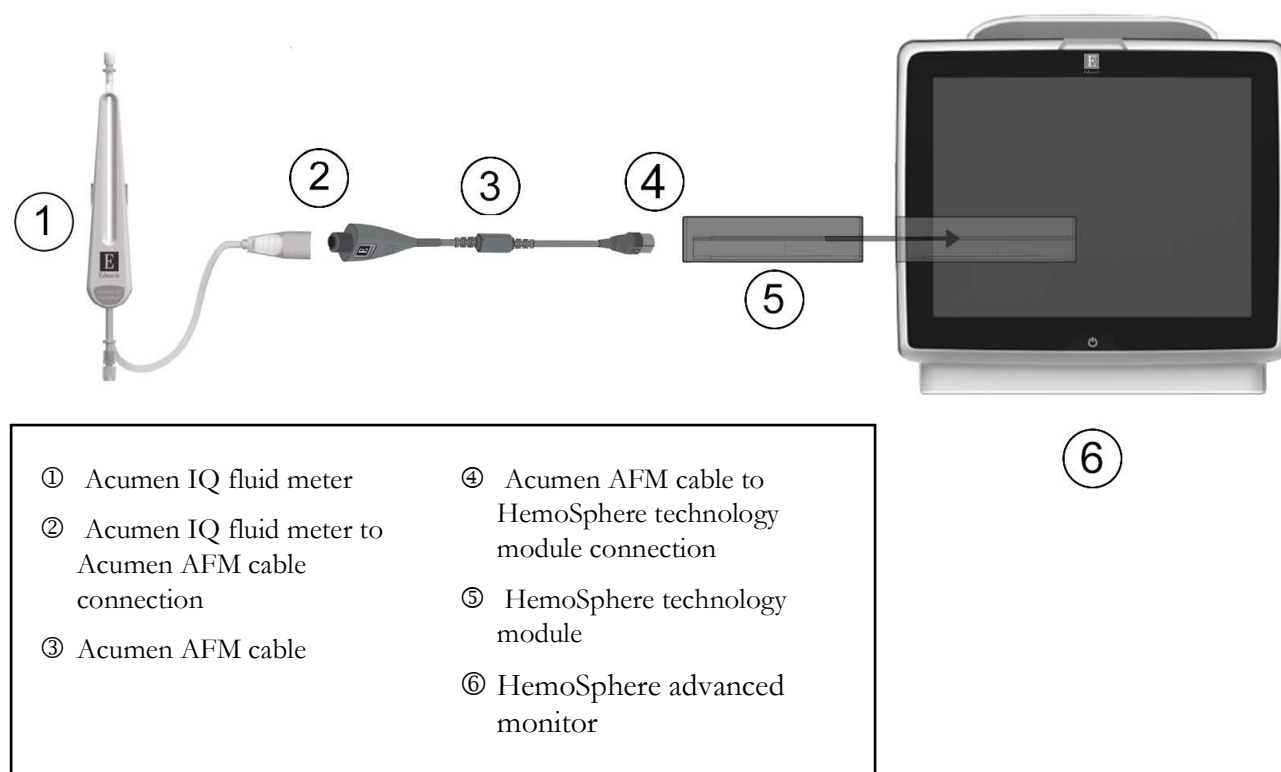

Figure 14-13 Acumen IQ fluid meter and Acumen AFM cable connection overview
- 4 Connect the Acumen IQ fluid meter to the end of the Acumen AFM cable indicated by ② in Figure 14-13.